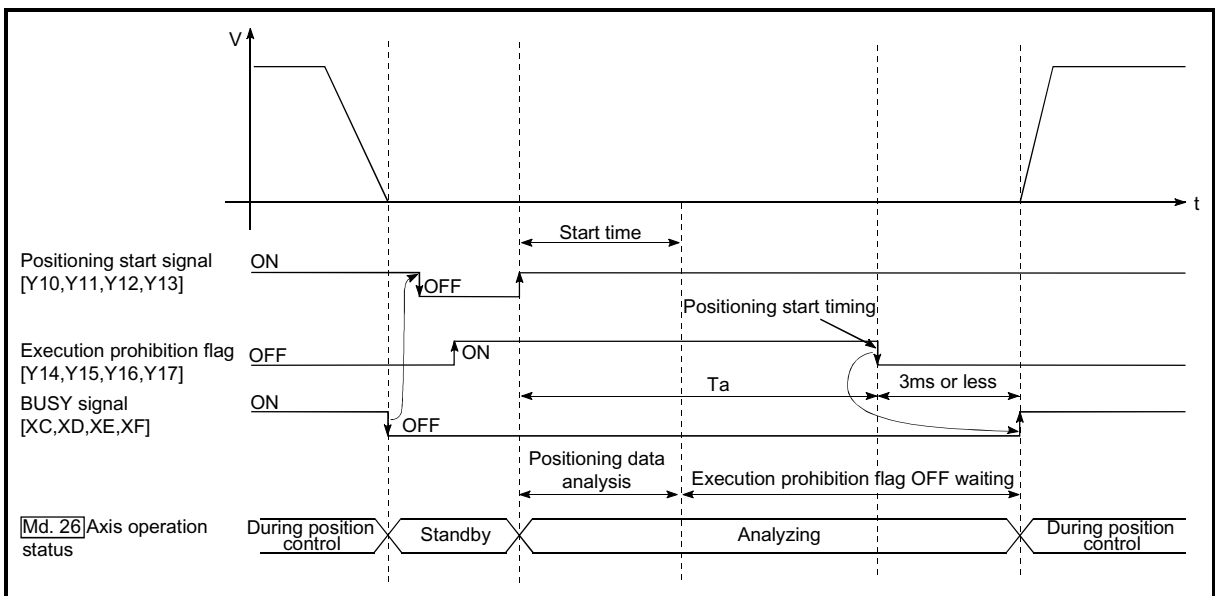

Fig. 12.46 Operations of pre-reading start function
The pre-reading start function is performed by turning ON the positioning start signal [Y10, Y11, Y12, Y13] with the execution prohibition flag [Y14, Y15, Y16, Y17] ON, or by executing the dedicated instruction (PSTRT1, PSTRT2, PSTRT3, PSTRT4). However, if positioning is started with the execution prohibition flag ON, the positioning data is analyzed but servo start is not provided. While the execution prohibition flag is ON, "Md.26 Axis operation status" remains unchanged from "5: Analyzing". Pulse output starts within 3ms after the execution prohibition flag [Y14, Y15, Y16, Y17] has turned OFF, and "Md.26 Axis operation status" changes to the status (e.g. during position control, during speed control) that matches the control system. (Refer to Fig. 12.46)
Hence, pre-reading of the next data starts during the stop time  $T_w$ . If  $T_w$  is a certain period of time, the analysis of the next data is completed during that period, and the system is placed in an execution prohibition flag OFF waiting status. Therefore, replacing the positioning start timing at ② with the execution prohibition flag OFF allows the time from when the axis operation request turns ON until pulse output starts to be reduced to within 3ms in the PLC program. (Refer to Fig. 12.46)
- (1) The time required to analyze the positioning data is up to 7ms.
- (2) After positioning data analysis, the system is put in an execution prohibition flag OFF waiting status. Any change made to the positioning data in the execution prohibition flag OFF waiting status is not reflected on the positioning data. Change the positioning data before turning ON the positioning start signal.
- (3) The pre-reading start function is invalid if the execution prohibition flag is turned OFF between when the positioning start signal has turned ON and when positioning data analysis is completed (Ta < start time, Ta: Refer to Fig. 12.46).
- (4) The data No. which can be executed positioning start using "Cd.3 Positioning start No." with the pre-reading start function are No. 1 to 600 only. Performing the pre-reading start function at the setting of No. 7000 to 7004 or 9001 to 9004 will result in an outside start No. range error (Error code: 543).
- (5) Always turn ON the execution prohibition flag at the same time or before turning ON the positioning start signal. Pre-reading may not be started if the execution prohibition flag is turned ON during Ta after the positioning start signal is turned ON. The pre-reading start function is invalid if the execution prohibition flag is turned ON after positioning start (pulse output) with the execution prohibition flag OFF. (It is made valid at the next positioning start.)